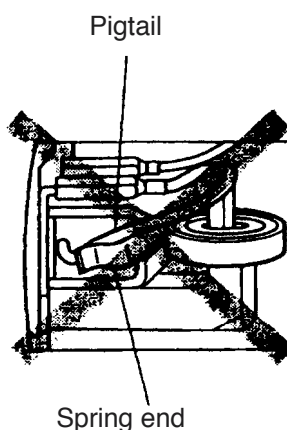

Fig. 11
- (5) Check that the spring end does not hold the pigtail when mounting the carbon brush. Do not catch the pigtail in the tail cover when mounting the tail cover. (See Fig. 11.)